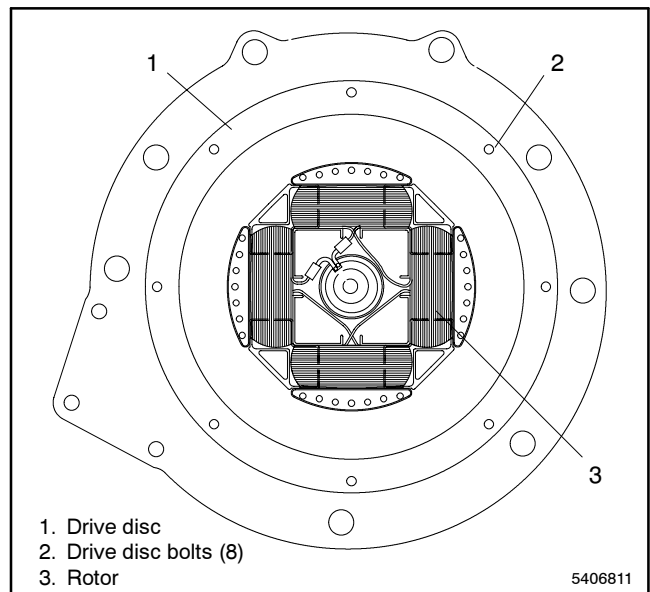

Figure 6-11 Drive Disc and Rotor
22. Remove eight nuts with spacers securing generator drive discs. Support rotor during removal of hardware. After removing nuts remove rotor and one drive disc. See Figure 6-11.